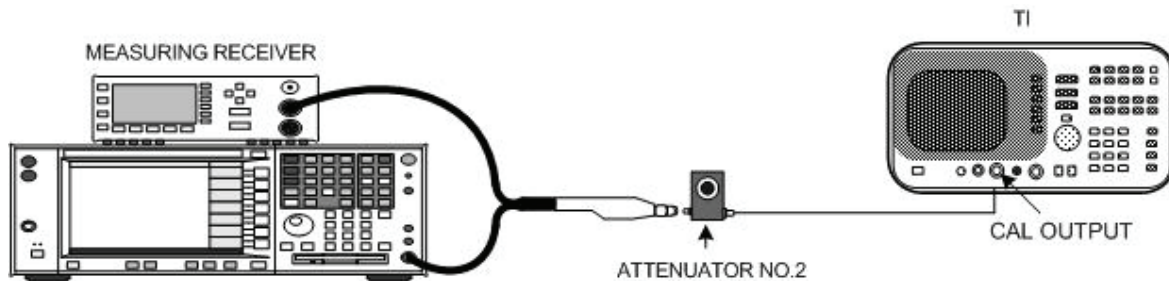

Figure 8. Marker amplitude accuracy test - equipment setup.
- (5) Connect equipment as shown in figure 8.